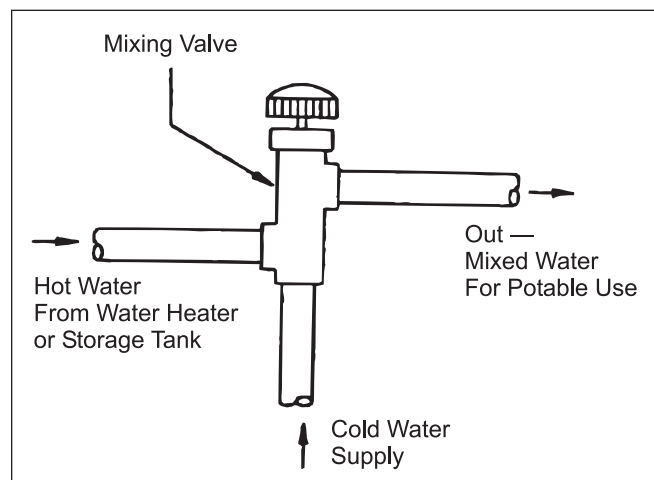

Figure 25. Installation of tempering valve.
**When the system requires water for heating at temperatures higher than required for other uses, an anti-scald mixing or tempering valve (see figure 25) shall be installed to temper the water for those uses in order to reduce scald hazard potential.**